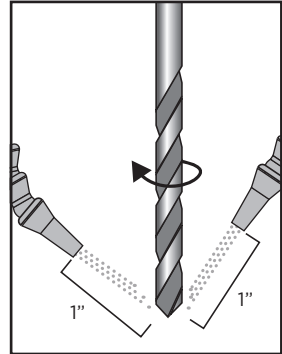

Fig. 4
1. Position the nozzle less than 1" from the cutting tool making sure it is aimed towards the cutting edge (see Fig. 4).